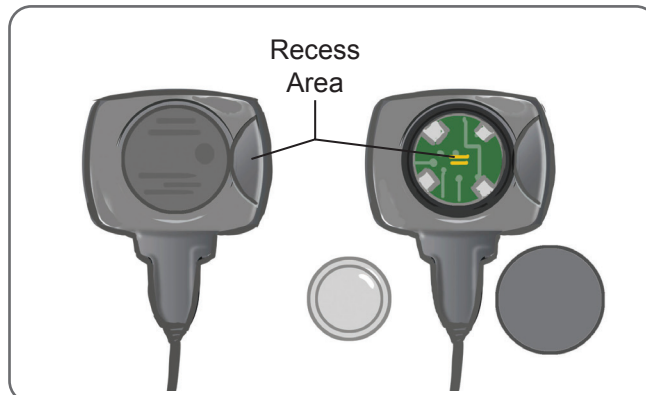

Figure 11-1: Replacing the Foot Sensor Battery
1. Use the recess area on the back of the Foot Sensor to pop out the battery lid cover. See Figure 11-1.